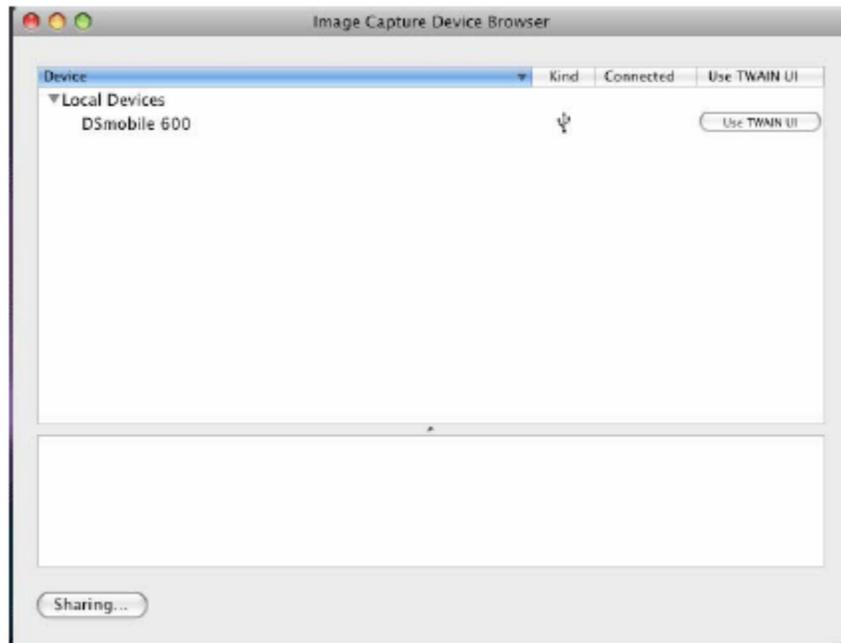

Figure 3. Leopard Image Capture Device Browser Window
6. The "Image Capture Device Browser" window will appear (See Figure 3).
7. Click the "Use TWAIN UI" button to the right of "DSmobile 600" (See Figure 3).